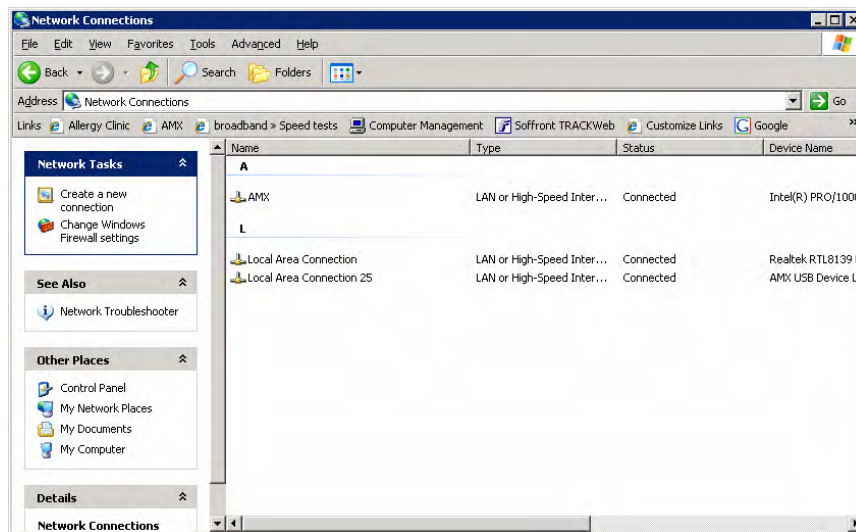

FIG. 74 Network Connections window
2. In the *Control Panel* window, click on the **Network Connections** icon to open the Network Connections window (FIG. 74)